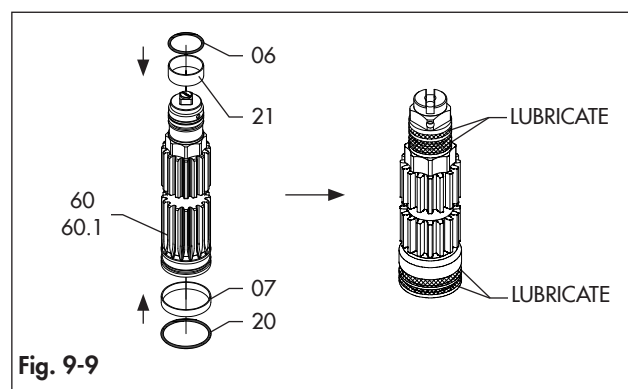

Fig. 9-9
Refer to Fig. 9-1, Fig. 9-9, Fig. 9-10 and Fig. 9-11.
- Place the drive shaft top bearing (06) and bottom bearing (07).
- Lubricate and place the drive shaft top o-ring (21) and bottom o-ring (20).
- Lubricate the external surface of the bearings and o-rings placed onto the drive shaft (60/60.1) as per the Fig. 9-9.